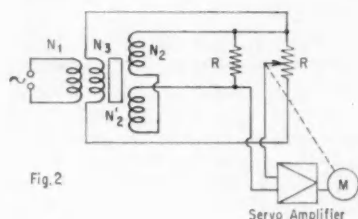

Fig. 2
spool. The primary coil N_1 wound in the center is connected to the exciting power supply. Secondary coils N_2 and N_4 wound at the right and left of N_1 are arranged in reverse polarity and connected to the output circuit. A tertiary coil, N_3 , is connected to the balancing voltage slidewire. A ferrite core (2) and a core rod (3) are placed between the coils and move along the coil axis. Within the range where proportional relationship between core displacement and secondary voltage e_2 is maintained, tertiary voltage e_3 would remain constant. Since variation in voltage, frequency, and waveforms affects either the secondary or tertiary output voltage equally, and ambient temperature change affects the output of either coil as well, compensation of these factors can be accomplished by forming an automatic null balancing network with equal load on each coil, as shown in Figure 2.